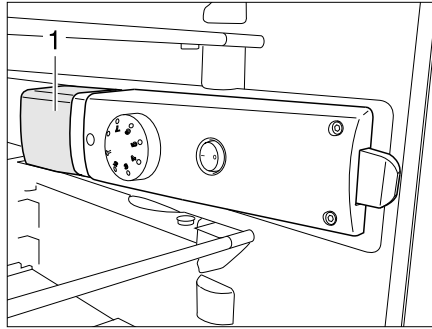

Fig. 381 Refrigerator light
- Grip under the light covering (Fig. 381,1) from behind and raise the light covering approximately 3 mm.